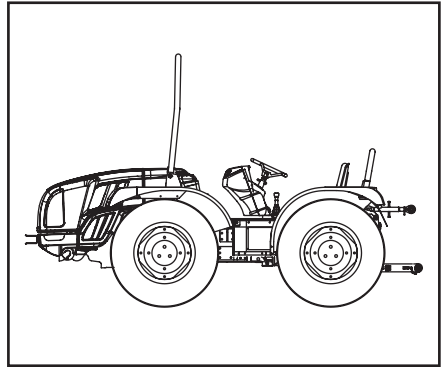

Fig. 2.1
- A rollbar, which must always be mounted in the protective position (Fig. 2.1). Safety belts should be used in accordance with current laws in the various markets.